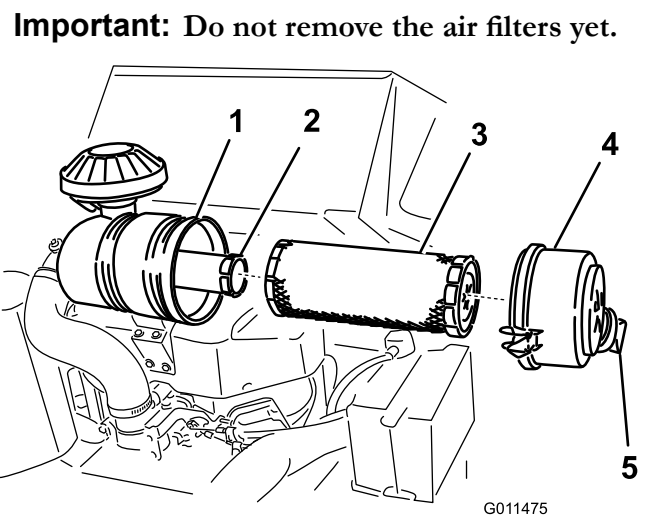

Figure 30
3. Release the latches on the air cleaner and pull the air cleaner cover off of the air cleaner body (Figure 30).
1. Gently slide the primary filter out of the air cleaner body (Figure 30). Avoid knocking the filter into the side of the body.
- If you are replacing the safety filter, carefully slide the new filter into the filter body (Figure 30).
- Carefully slide the primary filter over the safety filter (Figure 30). Ensure that it is fully seated by pushing on the outer rim of the filter while installing it.
- Install the air cleaner cover with the dust cap oriented as shown in Figure 30 and secure the latches.